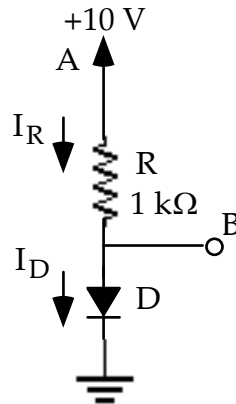
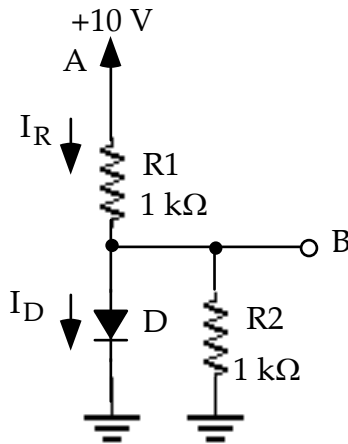

Figure 3 Diode Forward-Drop Test Circuit #1
Figure 4 Diode Forward-Drop Test Circuit #2
- (a) Consider the circuit in Fig. 3, consisting of some particular diode with its cathode connected to ground and anode connected to a $1\text{ k}\Omega$ resistor that is fed from a 10 V supply. If the diode voltage drop is 0.62 V measured at node B, what is the corresponding diode current I_D ?
- (b) Let the diode operating in Fig. 3 be shunted by a $1\text{ k}\Omega$ resistor as shown in Fig. 4. With the shunting of the diode by the $1\text{ k}\Omega$ resistor, the diode drop decreases by 3.0 mV. Determine the new value for the diode current I_D .
- Assemble the circuit shown in Fig. 3 using a 1N4004 diode.
a) Using the circuit in Fig. 3, connect the anode of the diode to one of the leads for each of four resistors, with values 1 k Ω , 10 k Ω , 100 k Ω , and 1 M Ω . The second leads for each of the resistors are to be left open circuit for the time being. As measurements are taken (see section b below), each of these open terminal will be connected to the 10 V supply alone in sequence. That is first connect the 1 k Ω resistor and take your measurements. Next disconnect the 1 k Ω resistor from the circuit, then connect the 10 k Ω resistor and take your measurements, and so on until you have used all four resistors. [Please note, from a safety point of view, to limit currents which might flow as a result of accidental misconnection, use the power-supply current-limit feature and/or a small series resistor connected to the supply, say 10 Ω to 100 Ω .]